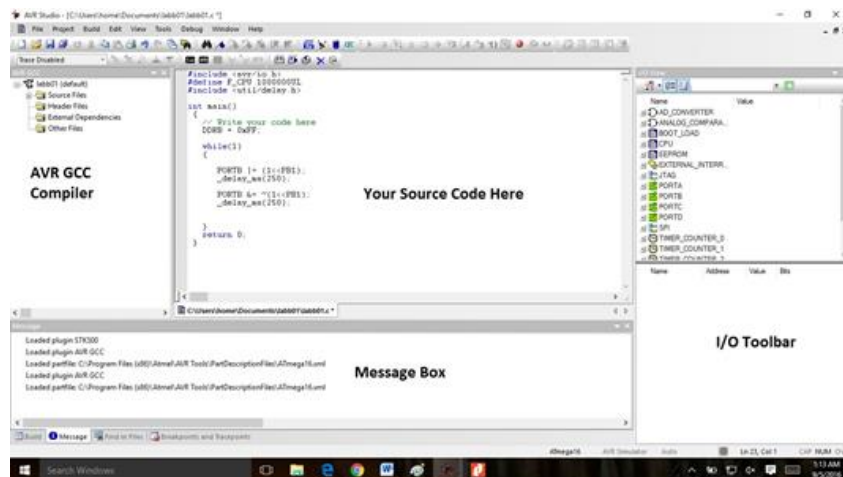

Figure 1.9 – AVR Studio platform section wise overview
- Layout shown in figure 1.9 will appear on the screen. Layout will consist of source Window, I/O window, message window and I/O toolbar.